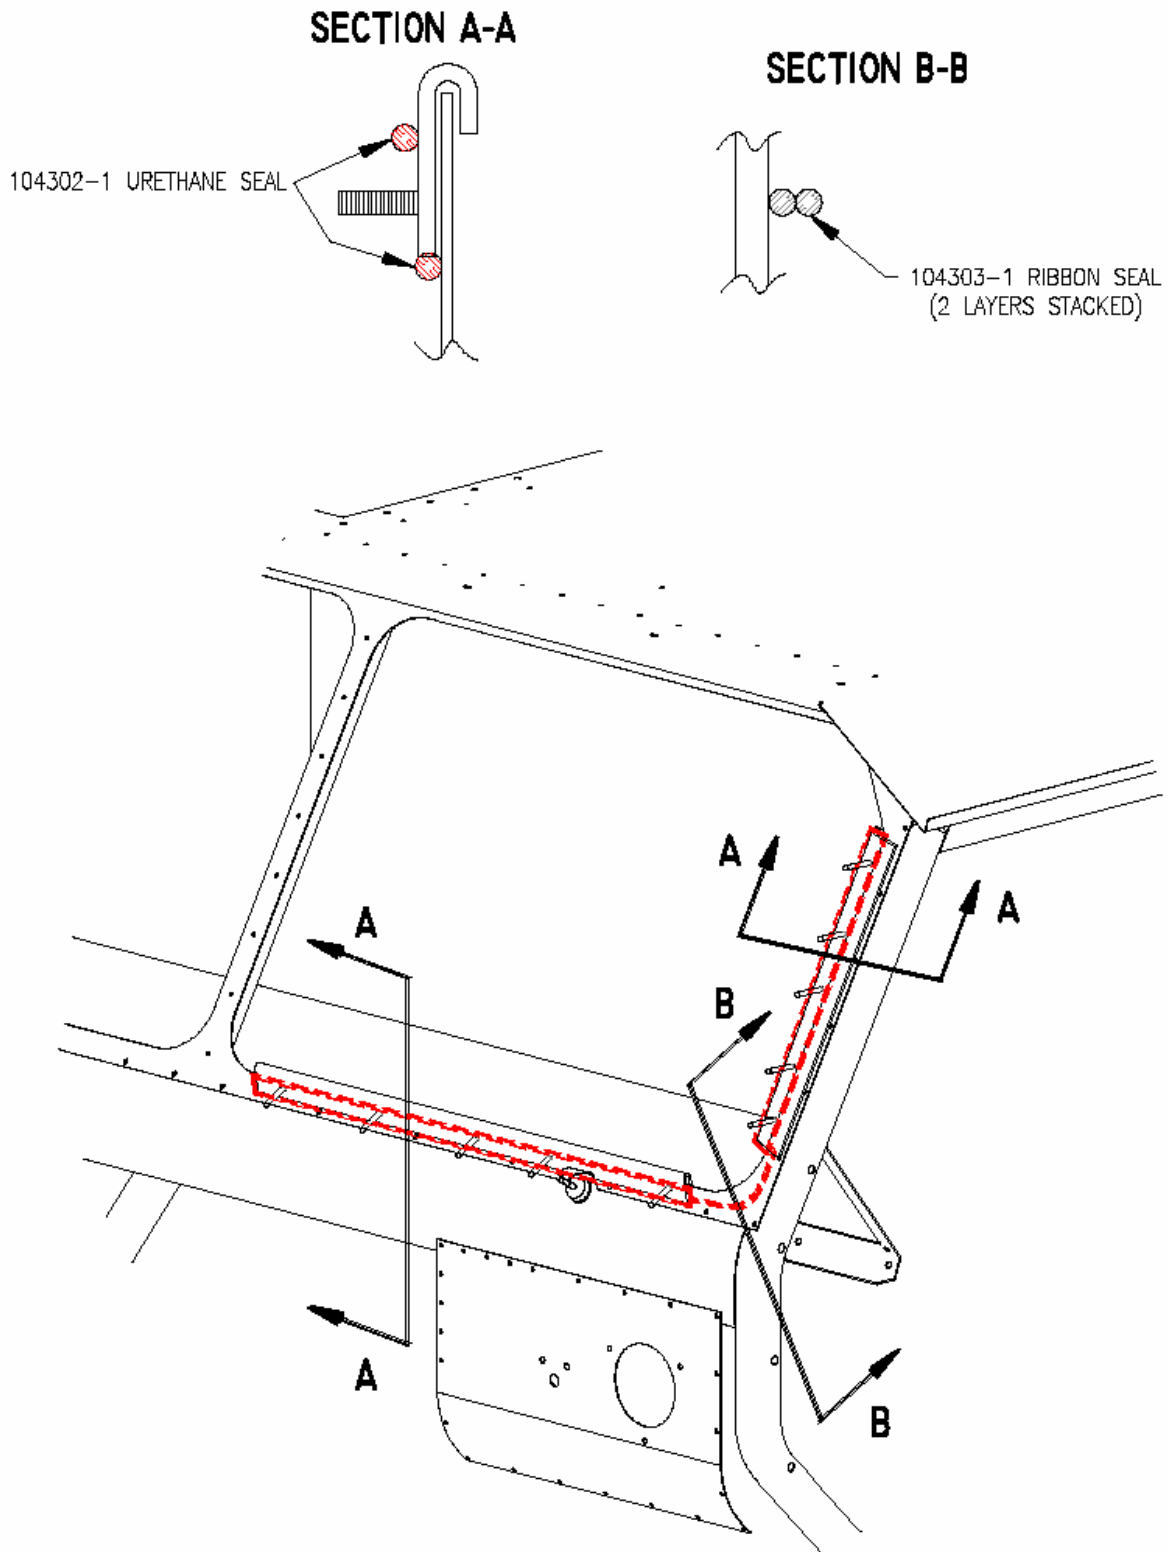
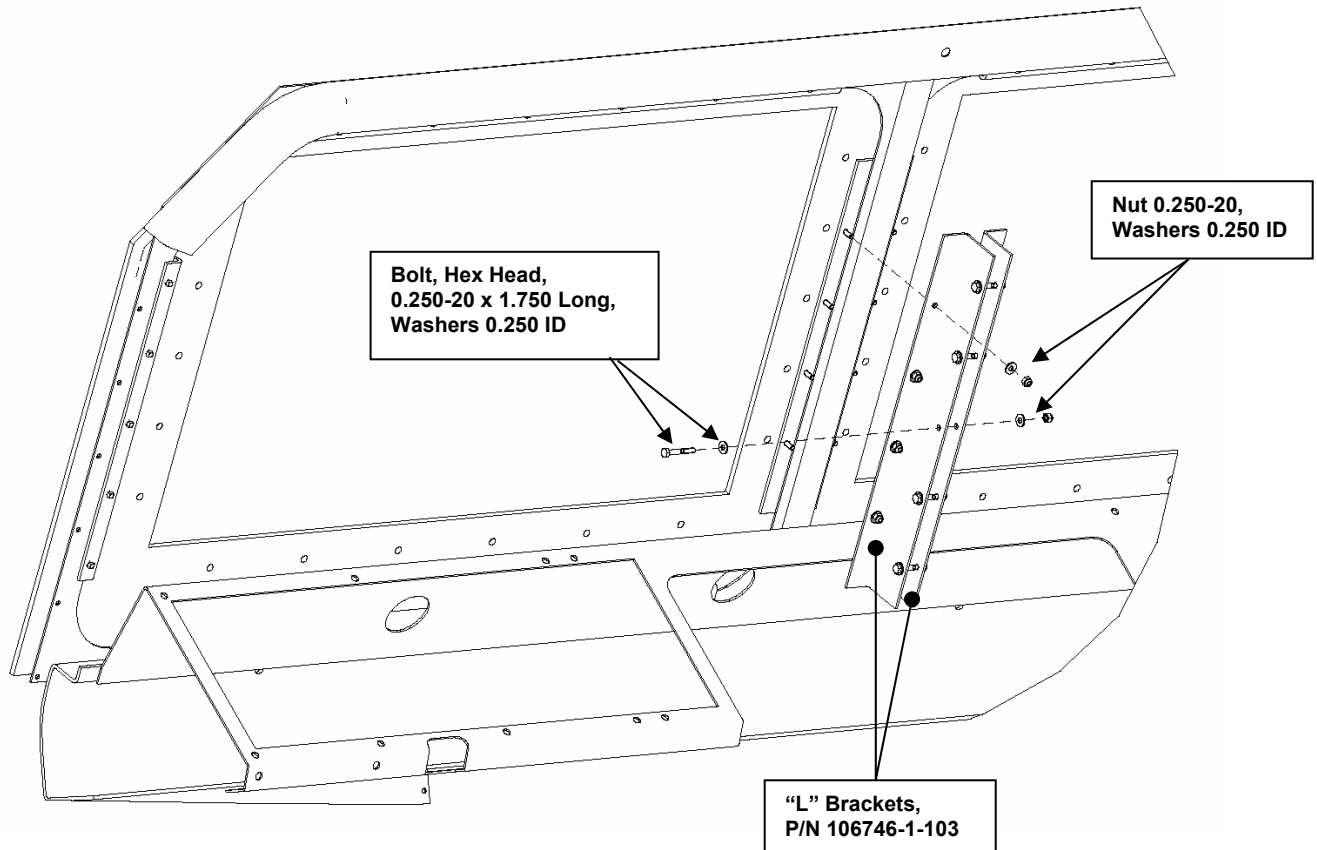

Figure 19. Urethane Sealant and Ribbon Sealer vehicle locations.
Figure 20. "L" Bracket Installation.
- i) To create an environmental seal between the Vehicle Cab and Windshield Frame apply the Urethane Sealant (P/N 104302-1) and the Ribbon Sealer (P/N 104303-1) as shown in Figure 19. If required, use additional sealant from the Front and Side Armor Kits.
- j) Attach the Windshield Frame Assembly to the vehicle as previously done in Step (g) using thirty-six (36) 0.250-in. self-locking nuts and thirty-six (36) 0.250-in. ID washers. Apply light oil to the studs prior to installation of the nuts. Torque to 6 ft-lb.
- l) Install the "L" Brackets (P/N 106746-1-103) using the fasteners, as shown in Figure 20. Apply light oil to the studs prior to installation of the nuts. Torque to 6 ft-lb.